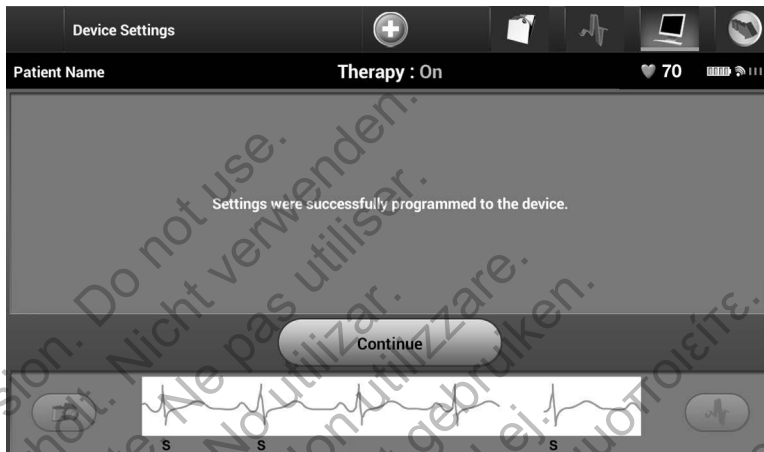

Figure 32: Confirmation of programming
7. Select the Program button to apply the changes and program the pulse generator. A message confirming that the pulse generator settings were successfully programmed (Figure 32) will appear. Select the Continue button to return to the Device Settings screen.